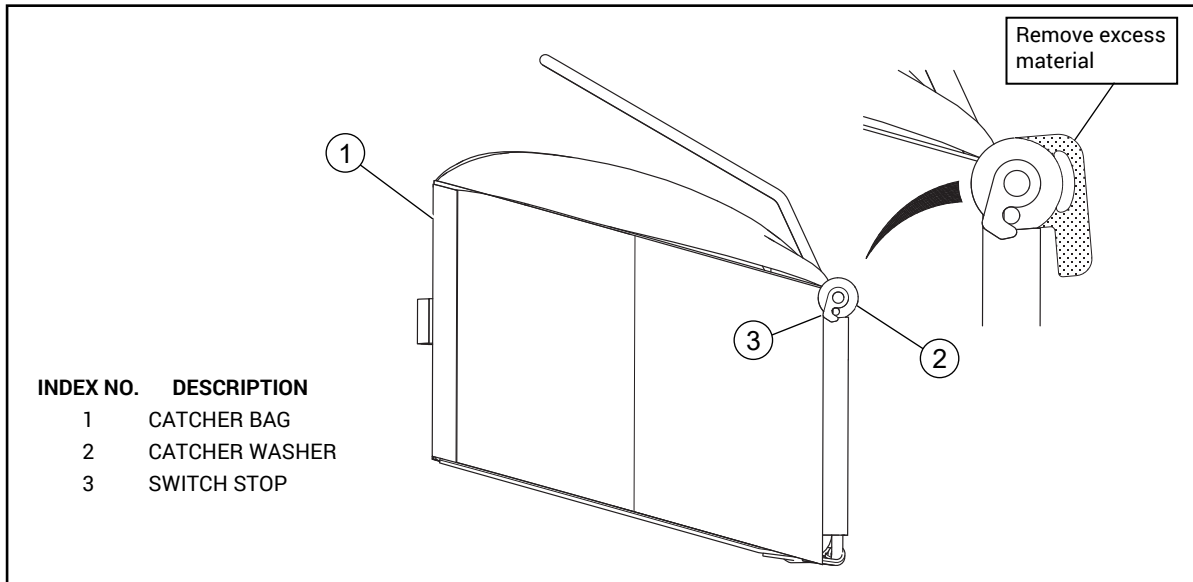
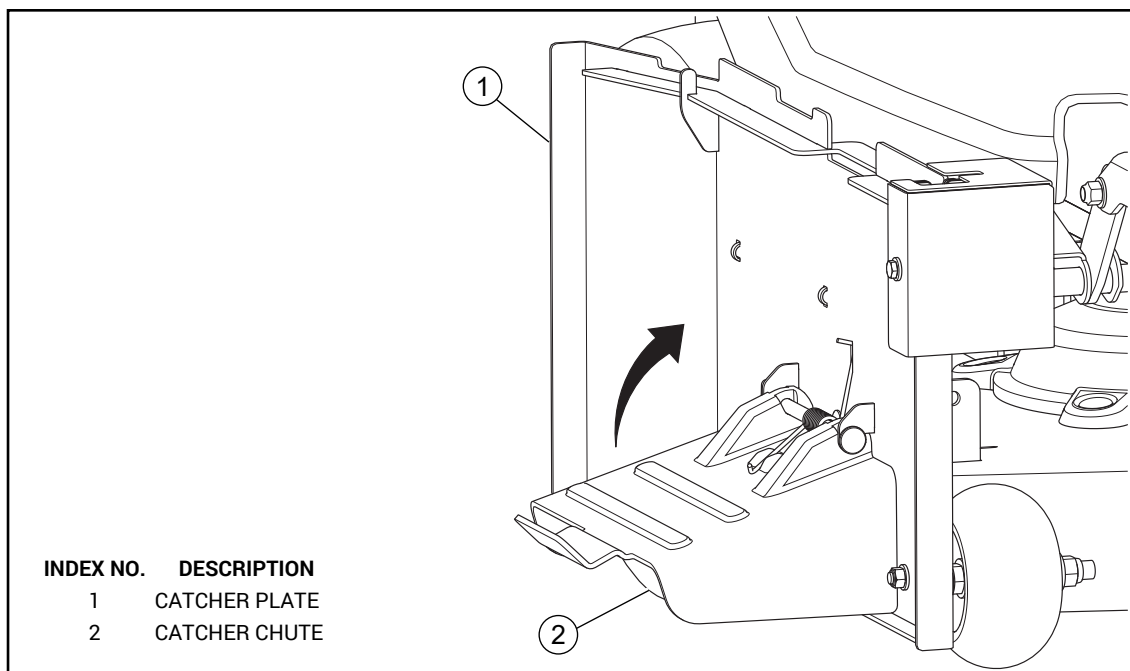

FIG. 9
FIG. 10
IMPORTANT: Do not remove too much material. Make sure no burrs exist on the catcher washer. Fig. 9
13. Raise the catcher chute to the upright position. Fig. 10
Inspect bag assembly for correct removal of tab. See steps 12 & 13, Fig. 9 & Fig. 10.